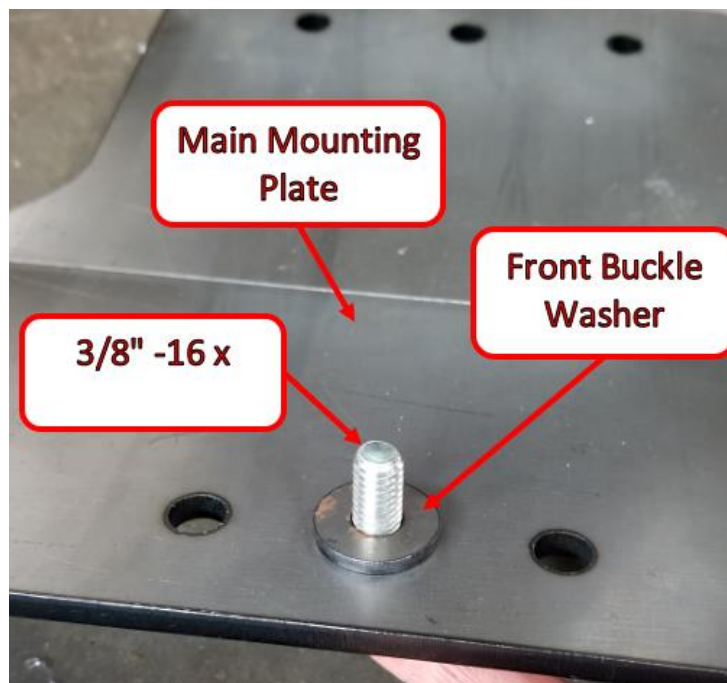

Figure 4
4. With the mount hanging loosely in place use the three remaining 3/8" bolts and the three Front Buckle Washers to secure the front of the mount plate. **NOTE: The Front Buckle Washers should fit inside the holes on the machine. It can require a little finesse to get them into place, but it is important for the security of the mount.** See Figure 4